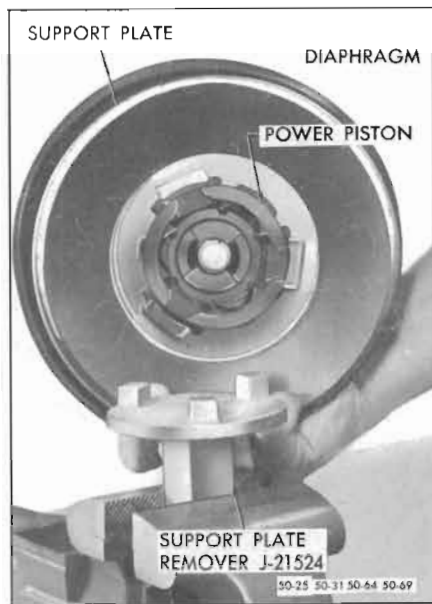

Figure 50-69—Positioning Power Piston on Wrench
3. Place the J-21524 power piston Wrench in a vise. Position the power piston on the wrench with the three lugs fitting into the notches in the power piston. See Figure 50-69.